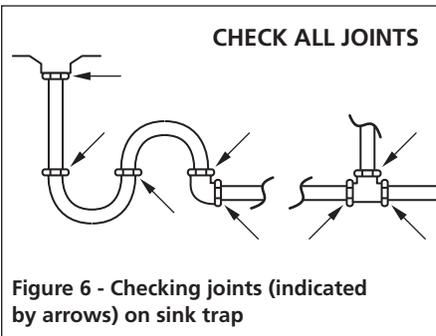

Figure 6 - Checking joints (indicated by arrows) on sink trap
- Sink traps are usually connected together using gaskets of rubber or other soft material. The gaskets are compressed at the joints with large compression nuts, preventing leaks. Occasionally a leak may develop around such connections. Check traps after using the drain cleaner and tighten up any joint found to be leaking (see Figure 6).